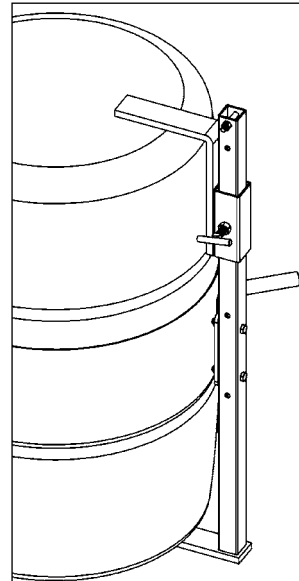

Figure 2.1
- The adjustable Bracket Assembly (Kit # 4556M-P) is **required** to handle a plastic drum without a top rim (see figure 2.1). The Bracket Assembly is also recommended when handling a fiber drum. You can also use the Bracket Assembly when handling a rimmed drum.